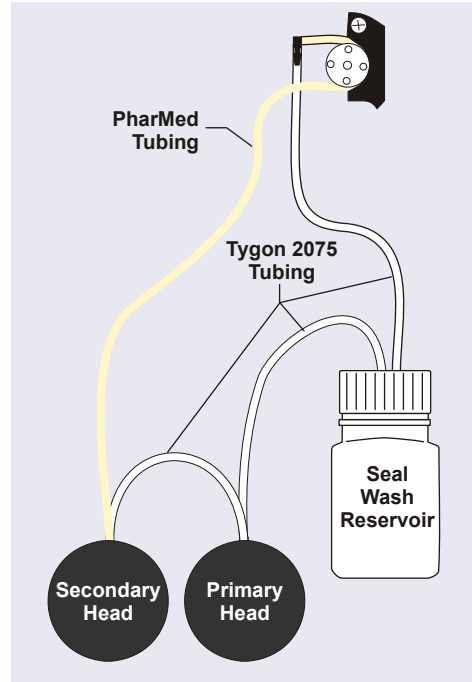

Figure 9-10. *Piston Seal Wash Tubing Connections*
6. Pull off all seal wash tubing from the seal wash reservoir and the primary and secondary pump heads (see Figure 9-10).
8. Connect the new tubing pieces to the seal wash reservoir and pump heads (see Figure 9-10).